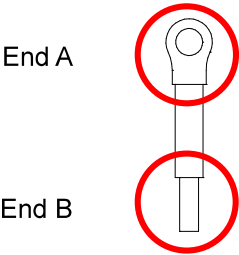

Figure 8-20
- You must ground the option cards as listed below when wiring. The ground terminal is included in the option card package, as shown in Figure 8-20.